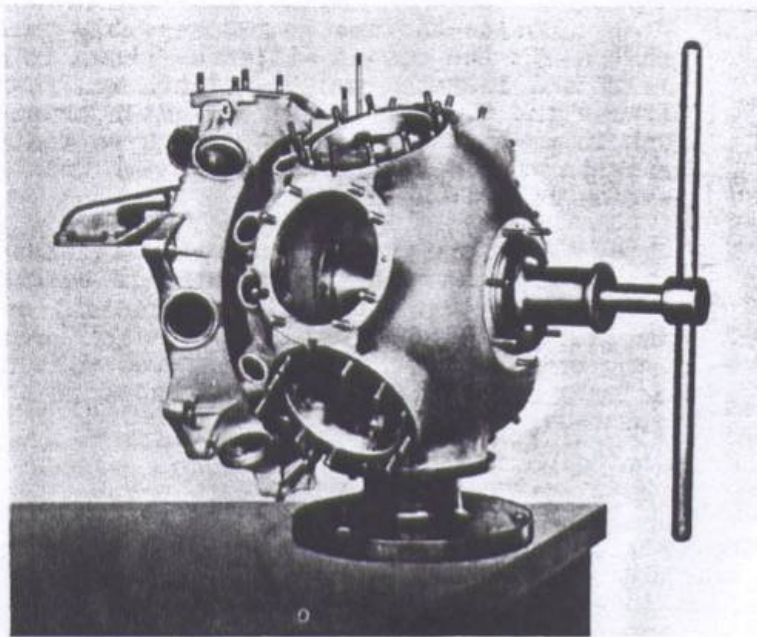

Fig. 21. Front and Rear Crankcase Sections, Induction Housing and Gearcase assembled for Reaming Operation
(3) With crankcase set up on a bench carefully install the reamer into place through the crankcase front section as shown in Figure 21.
(4) Ream the cam and magneto drive shaft bushings.